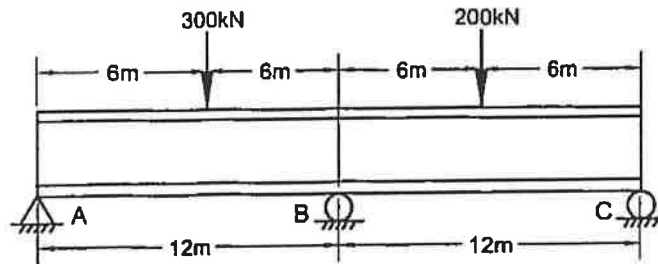

FIGURE 4
7. A 2-span continuous welded plate girder, each span being 12m long, Fig. 4, is to be designed using the stiffened-web approach. Design the section adequate for bending and shear and their interaction.